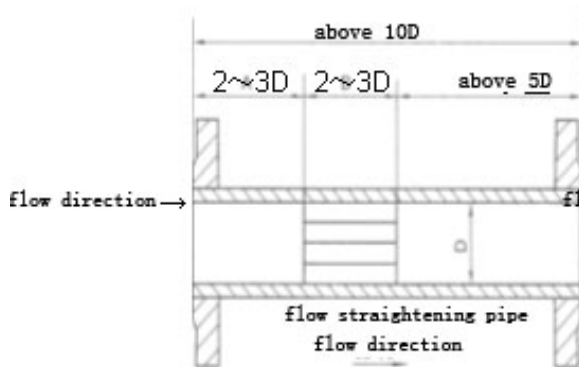

Figure 7-2
- In order to eliminate the influences of reverse flow, uneven flow velocity distribution and rotational flow, flow straighteners may be installed in the upstream of the flow meter( please see Figure 7-2 for structure of such flow straightener.), in that case, the straight length in the upstream of the flow meter **L=10D** will be OK. If the length is **15~20D**, the measuring accuracy may meet the calibrated accuracy.